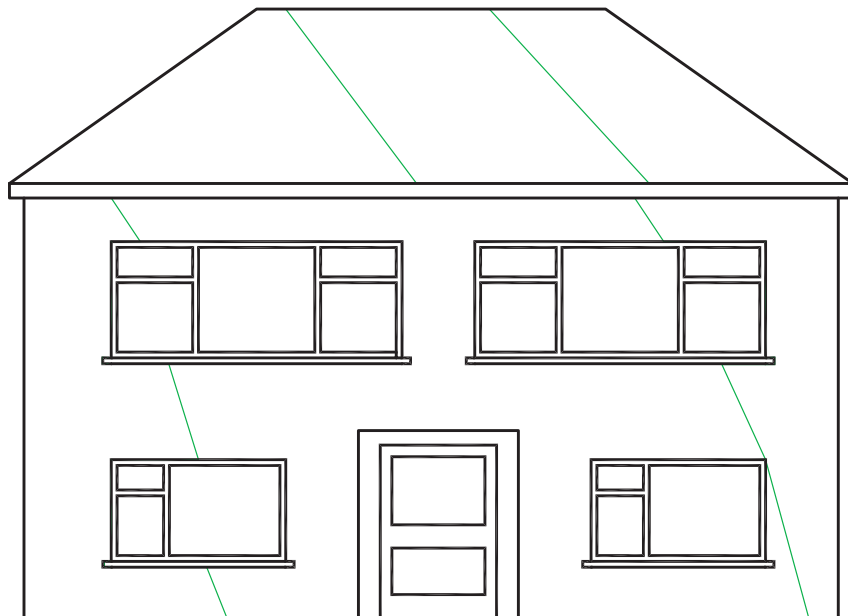

Fig. 8.16 Seventh example – construction on layer **Text**
4. Make layer **Text** current and construct the lines as shown in Fig. 8.16.